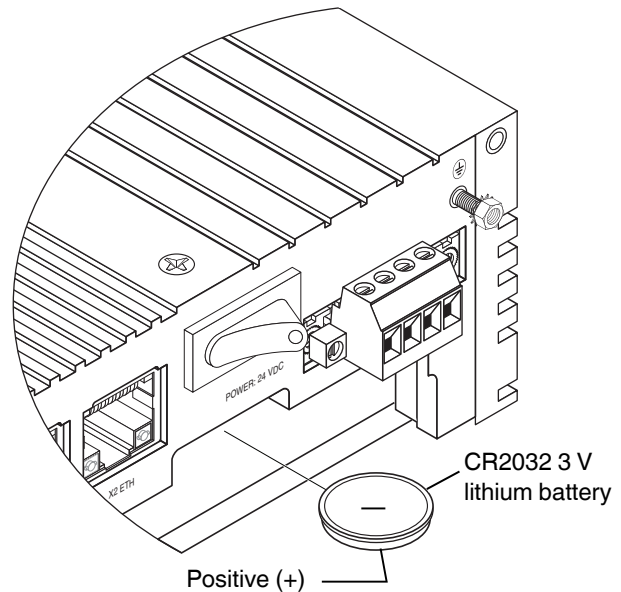

Figure 13 Insert RTC battery as shown
3. Be sure to replace the battery with the same type (CR2032 3V Lithium), oriented as shown in Figure 13.